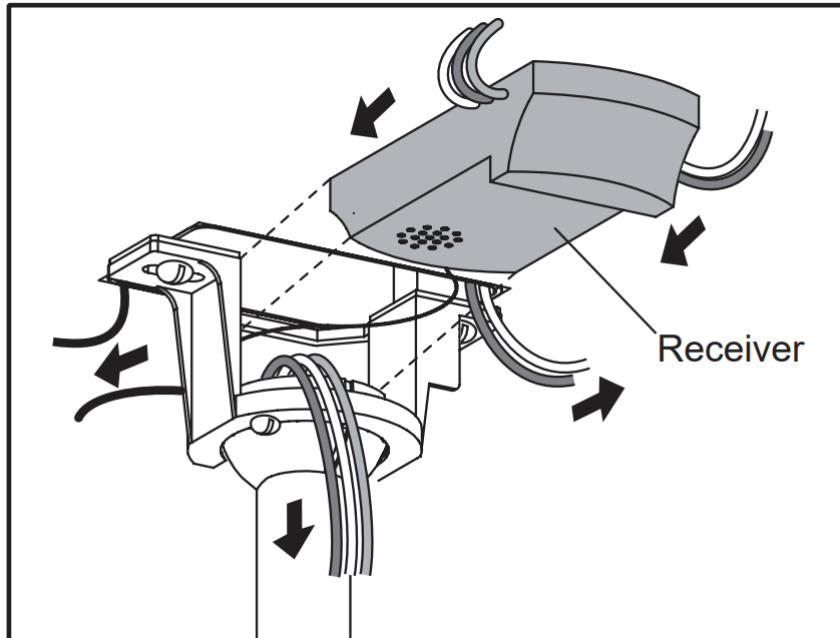

Fig. 12
12. Carefully insert the Remote Receiver above the hanger ball in the remainder spacing in the mounting bracket. Take care not to damage or loosen any of the wiring. (Fig. 12)